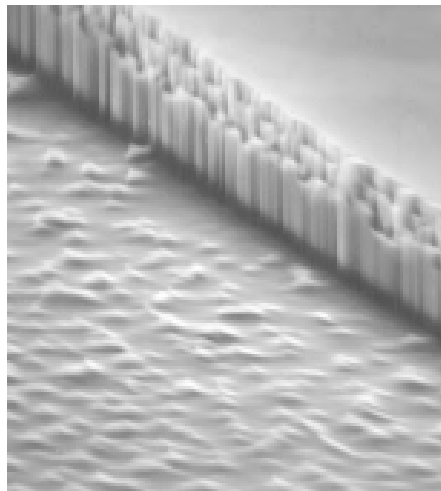

Figure 1 : SEM image of Si Wafer Surface
- (b) Figure 1 shows a SEM image of a Si wafer surface after a C_2F_6 dry etch. What can one deduce from such a result of an etching process?